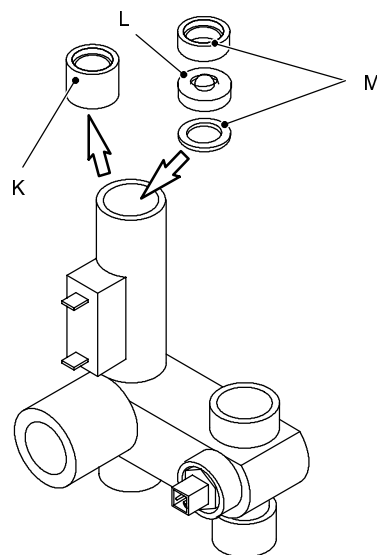

fig. 68
- 4 Remove the plastic cylinder *K* and replace it with the flow limiter *L* and the plastic gaskets *M* as shown in fig. 68.